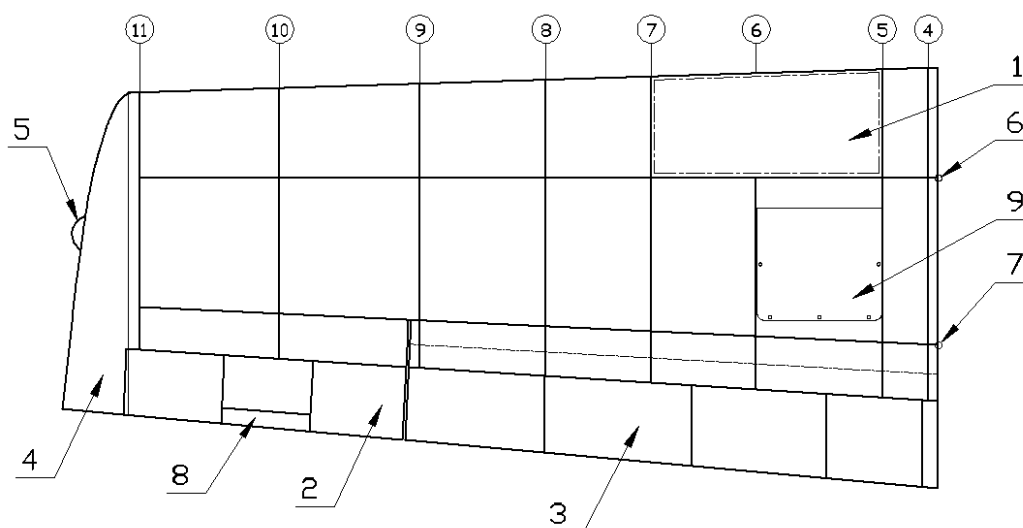

Fig. 4-1
The wing of the airplane is formed from center section of wing made as main and rear spar, which is integrated part of fuselage (Fig. 3-1), and from outer wings placed between ribs No.4 and 12, which have trapezoid shape (Fig. 4-1). The wing is of all-metal main spar structure with a rear spar. In the outer wings are installed between ribs No.5 and 7 leading edge fuel tanks (1), on the rear spar there are hinged ailerons (2) and flaps (3). The winglets (4), produced from fiberglass, are riveted on the wing ribs No.12. On winglets are installed the position lights and anti-collision beacons (5). The outer wing is attached to the center section by means of three main attachments (6) (positioned on the main spar) and the rear attachment (7) (positioned on the rear spar). The aileron control push rods are lead between the spars. The aileron trim tab (8) is installed on the left aileron. The trim tab actuator is installed inside of left aileron. The flap control actuator is installed in the fuselage between the seats under the glove box.
Wings are equipped optionally with wing lockers (9) (Fig. 4-1) placed between ribs No.5 and 6 behind main spar. Capacity of each wing locker is 20 kg (44 lbs.). Access doors installed on two hinges are locked per lock with two pins.